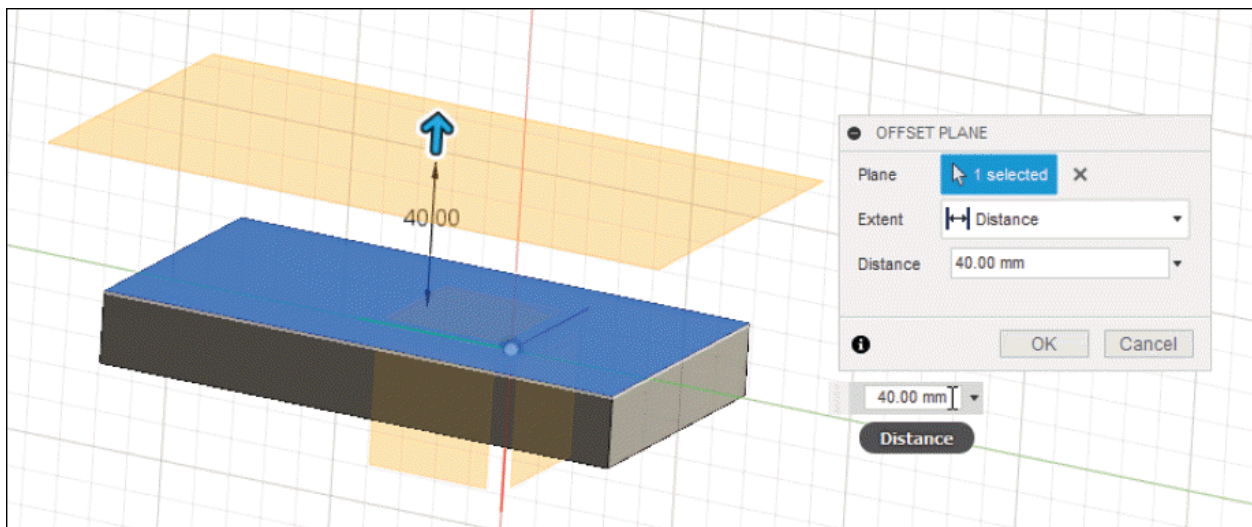

Figure-72. Preview of offset plane
- After specifying the distance for offset plane, click on the **OK** button from **OFFSET PLANE** dialog box. The plane will be created; refer to Figure-72.